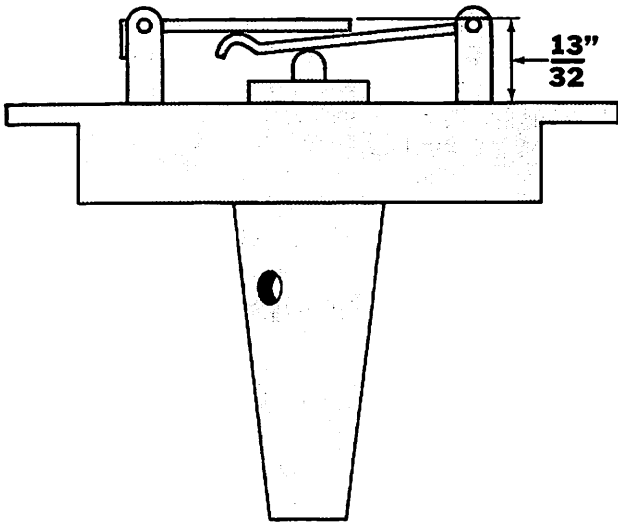

Figure 2. Gauging Primary Lever
5. Invert float bowl cover. Distance from face of shoulder to primary lever is $13/32$ " , plus or minus $1/64$ " . (Figure 2) Bend secondary lever as required.